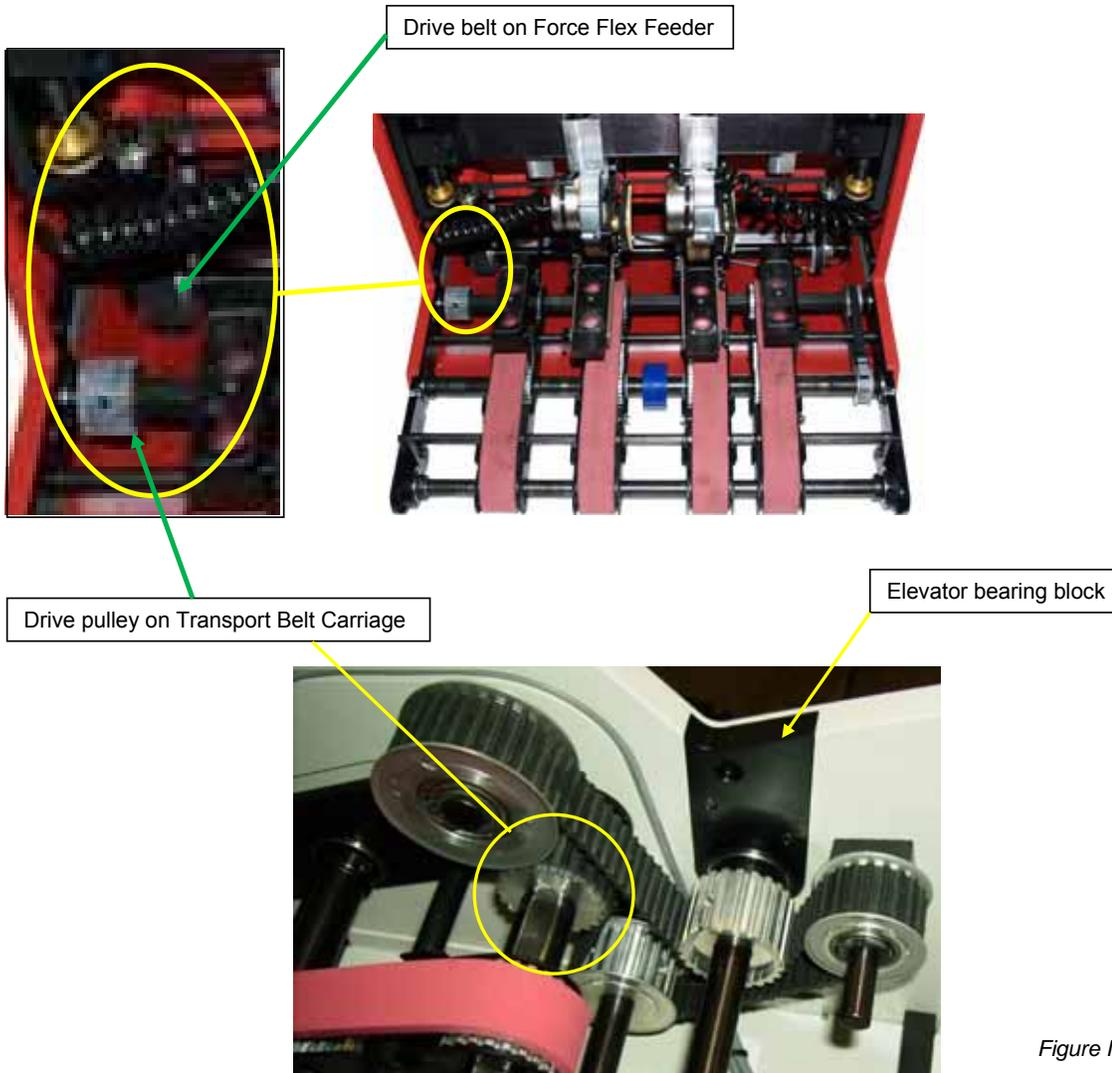

Figure IV-6
- a. Ensure that drive pulley on Carriage engages timing belt on feeder drive shaft. See figure IV-6.